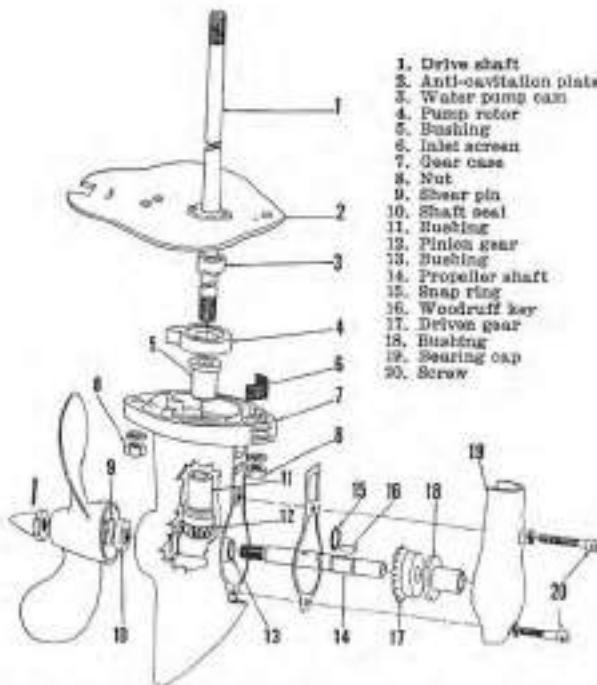

Fig. Mc13—Exploded view of direct drive gearcase, water pump, and associated parts. For 1963 gear shift models, refer to Fig. Mc15.
Use Figs. Mc13 and Mc14 as a guide when overhauling the lower unit. To renew the propeller shaft (14—Fig. Mc13), gears (17 or 18), bushings (13 or 18) or seal (10), first remove the propeller, remove drive pin (9), and unbolt and remove gearcase cap (19). Gear unit should be drained before disassembly. After gearcase cap has been removed, component parts can be withdrawn. Propeller shaft gear (17) is a press fit on shaft and should be removed with an Arbor press. Bushings (13 and 18) are pre-sized and will not require resizing if carefully installed.